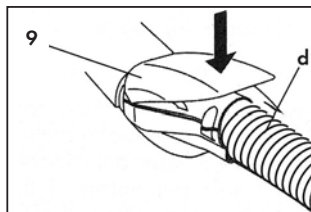

Fig. 11
- Flick the accessory socket door (9) wide open and fit the quick connection of the hose (d) to the socket on the front of the appliance. Press the connection in as far as it will go.
- Close the accessory socket door (9) so that it rests on the body of the quick connection and check that the two elements are properly engaged. (Fig. 11)